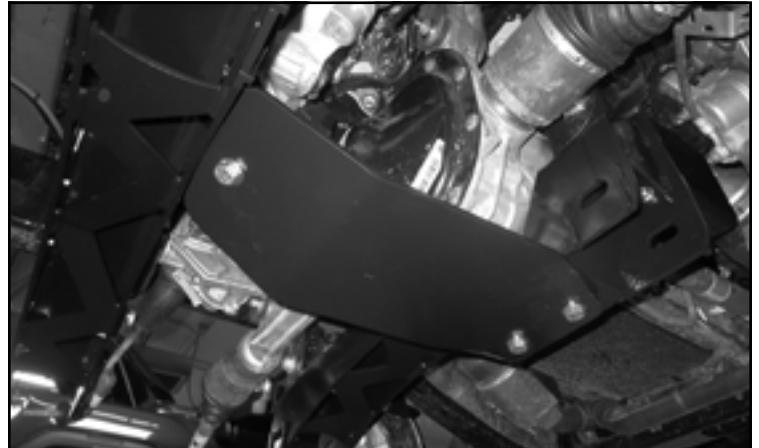

FIGURE 41 - STEP 33
33. Install FT30377BK (Skid Plate) to the front and rear crossmember using the supplied three 1/2" x 1-1/4" bolts, nuts and washers. Leave loose at this time. **SEE FIGURE 41**